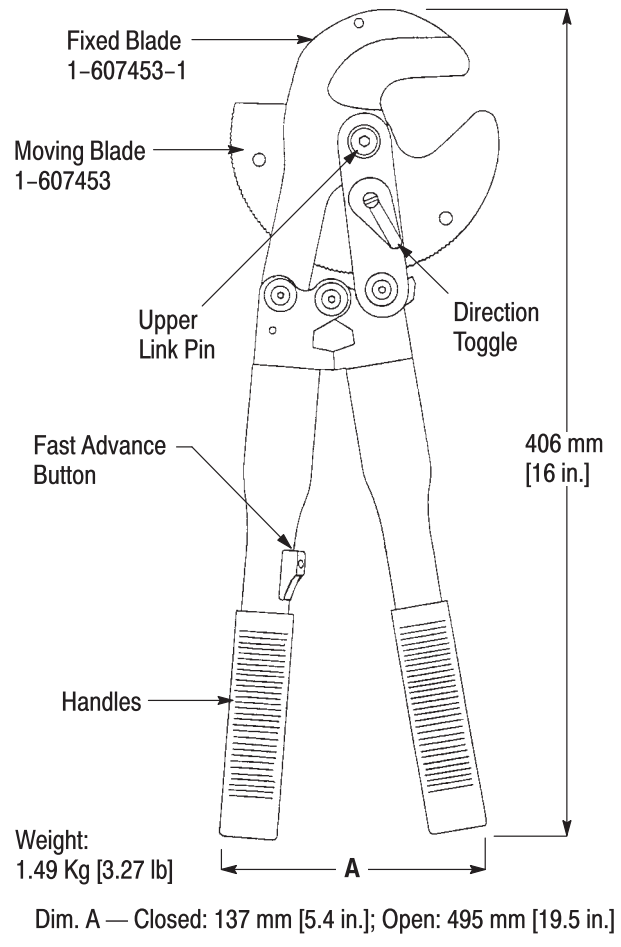

Figure 1
2. DESCRIPTION (See Figure 1)
Inspect the tool to ensure it conforms to the dimensions shown in Figure 1.
Customer-replaceable part numbers are listed in Figure 1. A complete inventory should be stocked and controlled to prevent lost time when replacement of parts is necessary. Order replacement parts through your representative, or call 1-800-526-5142, or send a facsimile of your purchase order to 717-986-7605, or write to: